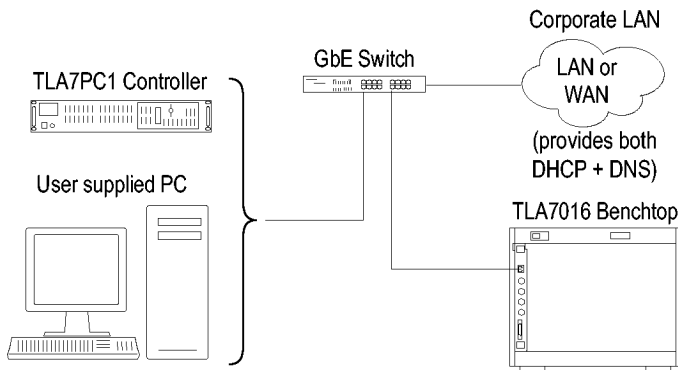

Figure 17: Benchtop mainframe corporate LAN setup (up to six modules)
1. Make the cable interconnections. (See Figure 17.)